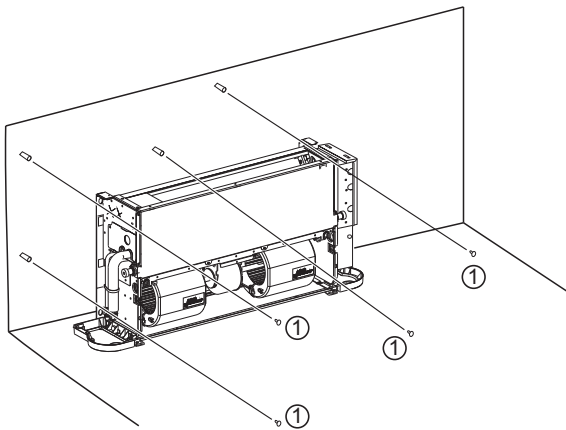

Fig.4-5 Diagram for fixing the unit body
As shown in Fig.4-5, fasten four screws (①) into a proper masonry structure.